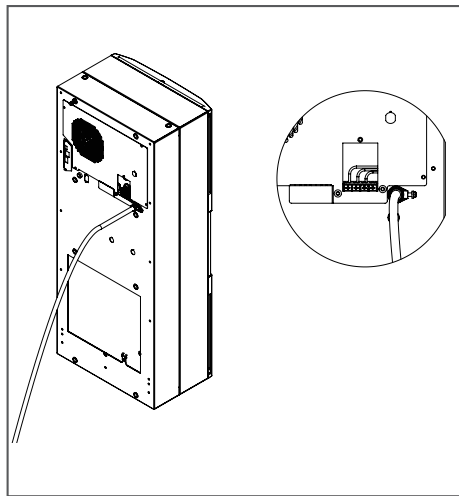

Figure 2
5. Tighten the screw on the strain relief to secure the supply wire, see Figure 2.